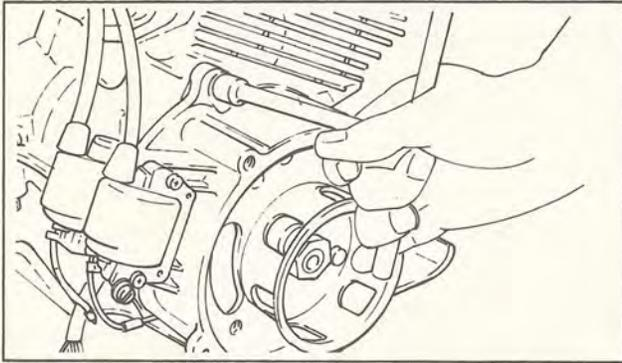

Fig. 2-17
- (1) Loosen the four bolts and remove the crankcase cover. (Fig. 2-17)